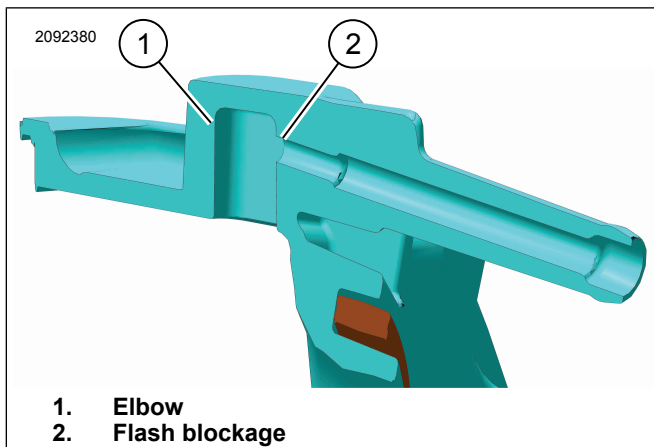

Figure 2. Backing Plate
8. See Figure 2. With the air box removed, apply air to the backing plate directly. A blockage will be indicated by no air flow.
- a. See Figure 2. Using a 3/16-inch drill bit, from the backside of the backing plate, drill the port open.